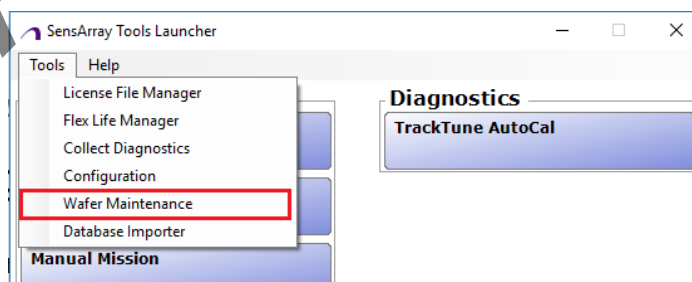

Figure 5-6 SAT launcher window
1. Click **Tools** on the **SAT** launcher menu bar, and select the **Wafer Maintenance** option, as shown in Figure 5-6. You can see the Wafer Maintenance Editor Window opens.